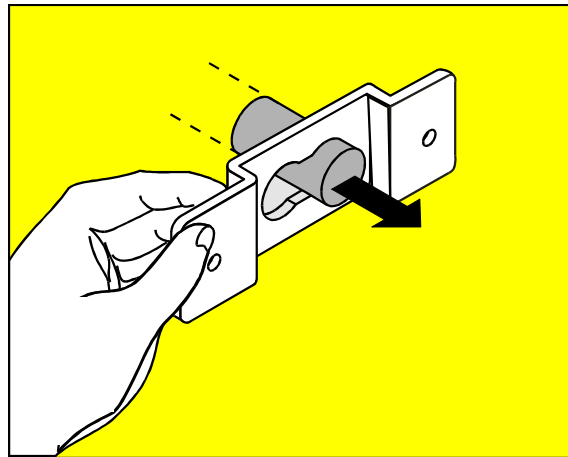

fig. 3
- Remove the brackets, turn them over and use them to pull the rods out (fig. 3).